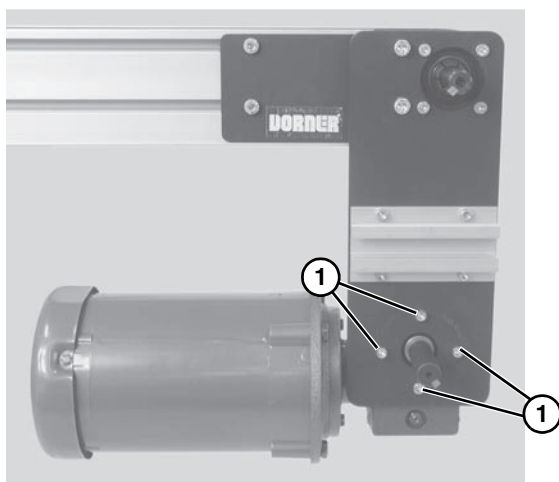

Figure 5
2. If required, change gearmotor position by removing four (4) screws (**Figure 5, item 1**). Rotate gearmotor to other position and replace screws (**Figure 5, item 1**). Tighten to 110 in-lb (12 Nm).